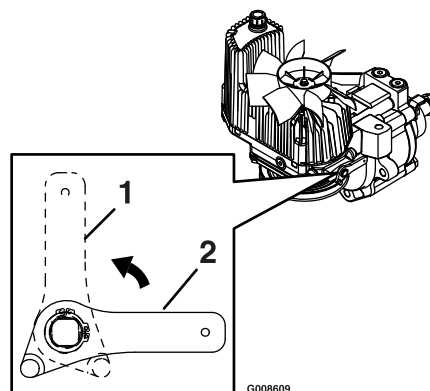

Figure 13
During normal operating conditions, the drive wheel release valves are positioned horizontally. If the machine has to be pushed by hand, the valves must be in the “released” position (see Figure 13).
To release the drive system (see item 1 in Figure 13), rotate the handle 1/4 turn to the vertical position until it hits against the stop.
To reset the drive system (see item 2 in Figure 13), rotate the handle 1/4 turn to the horizontal position until it hits against the stop.